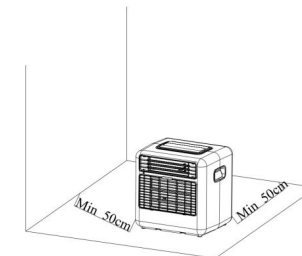

Figure 9
1.5.1 Move the machine with installed exhaust ducts and joints to the window, which shall be at least 50cm away from wall or other objects. (As shown in Figure 9)